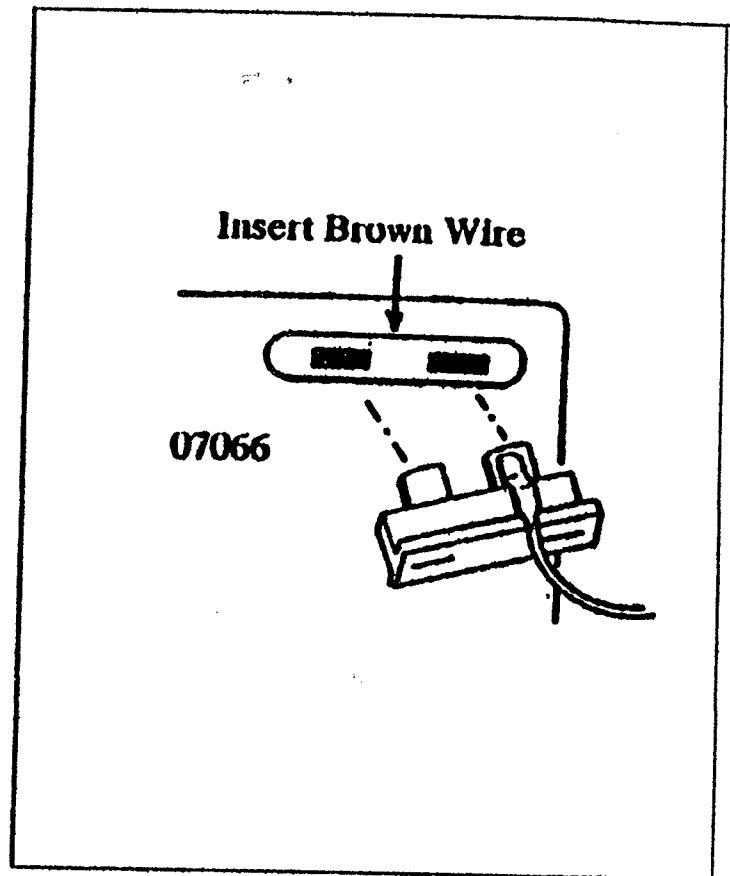

Figure 41
- A. The negative (-) side of the ignition coil. Figure 41.
C. Attach terminated Brown Wire to fuse panel as shown in Figure 41